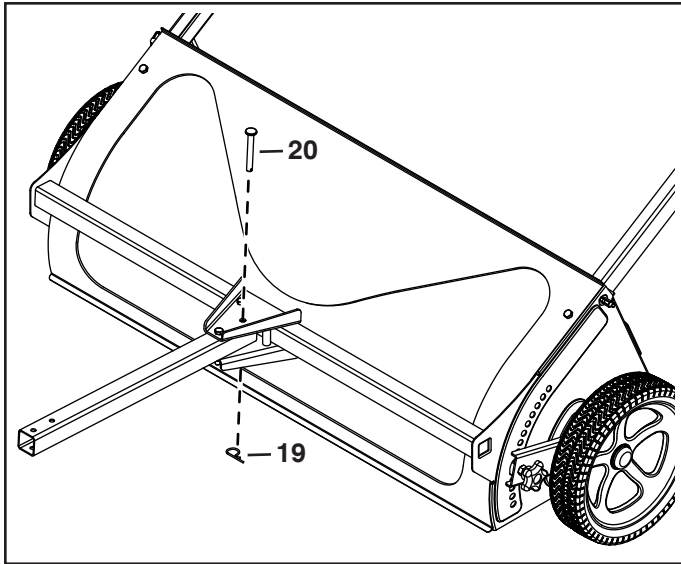

FIGURE 5
STEP 5: (SEE FIGURE 5)
- Lock the drawbar into position by inserting a 3/8" x 3" pin (20) into the center hole and securing it with a small 3/32" hairpin cotter (19).